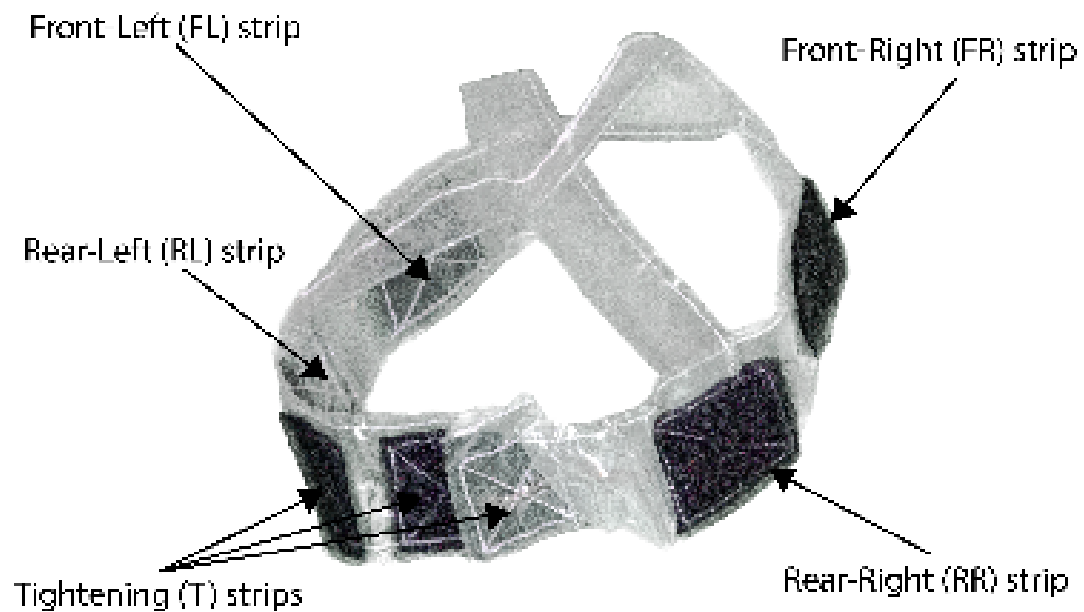

Figure 12: Velcro strips on head strap
12. Put on the head strap. There are 7 velcro strips on the head strap in total. 3 of them are used in tightening the head strap on the head, while the other 4 connect to corresponding strips in the hood. The tightening (T) strips and the strips connecting to hood are labelled as shown in **Figure 12** below. The 4 strips connecting to hood are labelled as the position on the head they are located at.
Ensure the Velcro strips are facing outward, as shown in the **Figure 12** above. Un-couple the tightening strips and place the head strap on the head, with two hands on the rear part of the head strap (the rear part has the 3 T strips). Couple the T strips after having tightened the head strap around the head to required tightness, as shown in **Figure 13**.